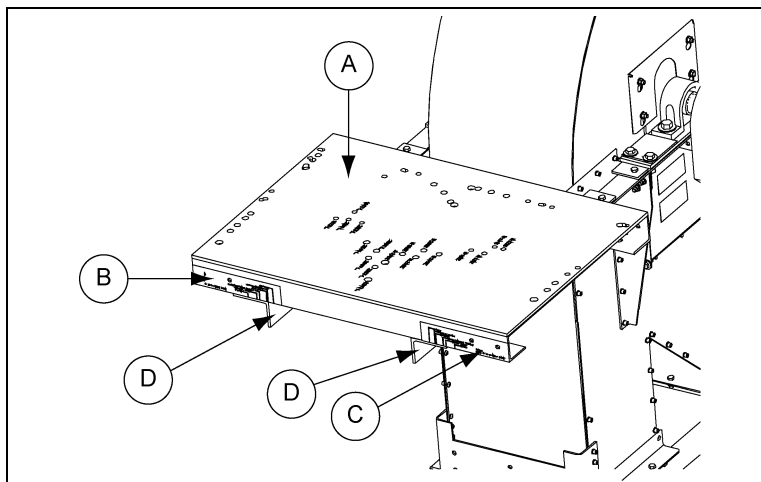
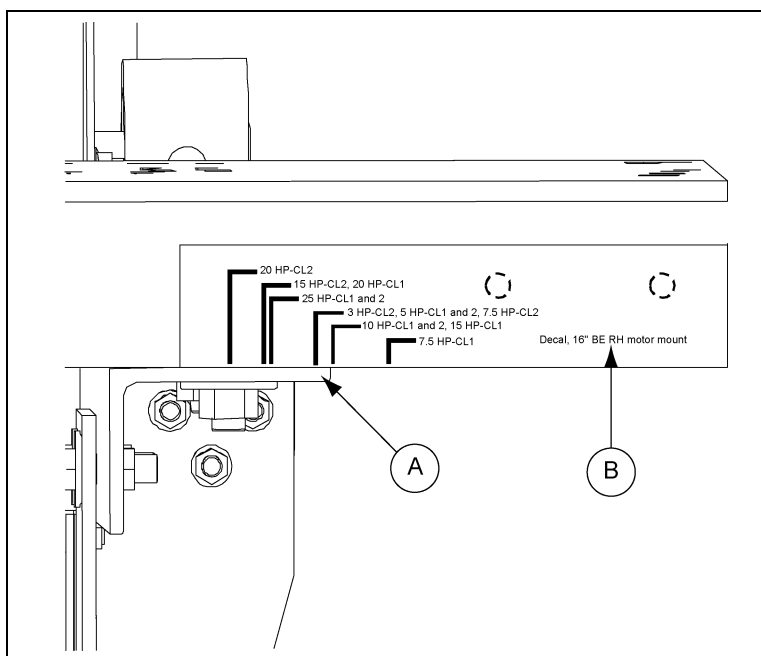

Figure 11A Motor Mount Plate
Figure 11B Right Hand Motor Placement Decals
The Figure 11A and Figure 11B on Page 35 shown for a right hand application.
1. Locate the side of the motor mount which has two (2) decals affixed. (See Figure 11A on Page 35.) One decal will have "L.H." for left hand and one will have "R.H." for right hand.
4. Slide the motor mount in or out while keeping the decal correctly aligned with the outside toe of the head bearing angle. (See Figure 11B on Page 35.) This will align the holes in the head bearing angles to the proper holes in the motor mount assembly.
5. Using the proper hardware, bolt the motor mount down to the head bearing angles. (See Figure 11A on Page 35.)